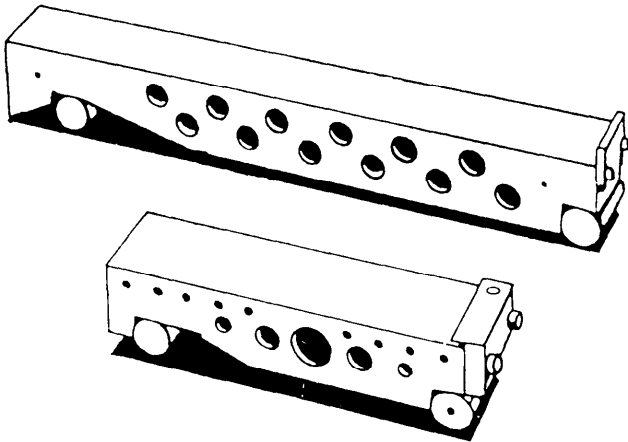

Figure 1-25.—Sine bars.
**SINE BAR.**—A sine bar (fig. 1-25) is a precision tool used to establish angles that require extremely close accuracy. When used in conjunction with a surface plate and gauge blocks, angles are accurate to 1 minute ( $1/60^\circ$ ). The sine bar is used to measure angles on work and to lay out an angle on work to be machined, or work may be mounted directly to the sine bar for machining. The cylindrical rolls and the parallel bar, which make up the sine bar, are all precision ground and accurately positioned to permit such close measurements. Be sure to repair any scratches, nicks, or other damage before you use the sine bar, and take care in using and storing the sine bar. Instructions on using the sine bar are included in chapter 2.